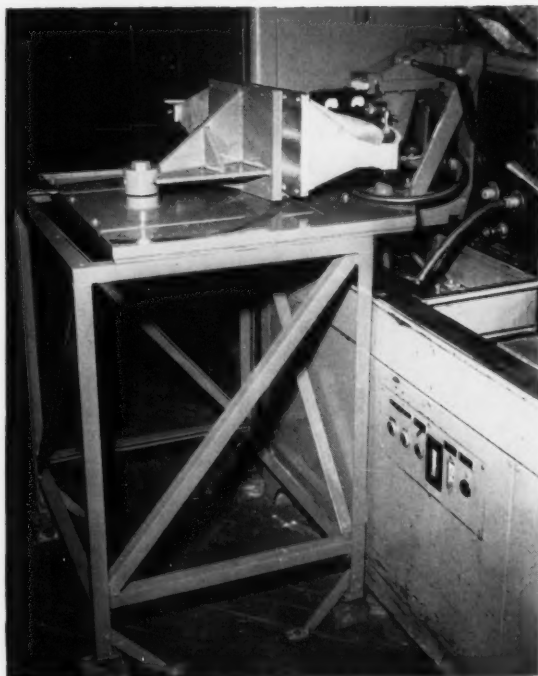

Fig. 1—Overall view of the induction hardening and tempering equipment showing work stand, induction coil and generator unit in background.
A study was made to determine the rate of case formation when nitriding under pressure by the method illustrated in Fig. 1. With short pieces of steel tubing of Type N analysis to contain the specimens to be examined and using 10 grams NH_3 per square foot at a pressure of approximately 800 psi when first heated to 1000° F., a series of runs were made at 4, 15, 45, 60 and 90 hours at temperature.
It is well to mention, at this point, that this was a "job shop" type of operation, wherein the particular job had to be set up and dismantled about every ten days. This was taken into account in the design of the fixture. As seen in Fig. 1 it consists of an angle iron stand, on top of which is mounted a work pivoting bracket and the induction heating coil.
1. Roller hearth—the new plant employs the only one in the industry. It has five times the capacity of the other heating equipment—see Figs. 1 and 2.
Fig. 1—The new roller hearth furnace above is the only one in the magnet manufacturing field. Ring magnets being loaded above travel 21 feet through the furnace on conveyor rolls, emerge with a temperature of about 900°C. This air atmosphere furnace uses 136 KW, has maximum temperature of 1100°C. Door opens to 24x5 inches.